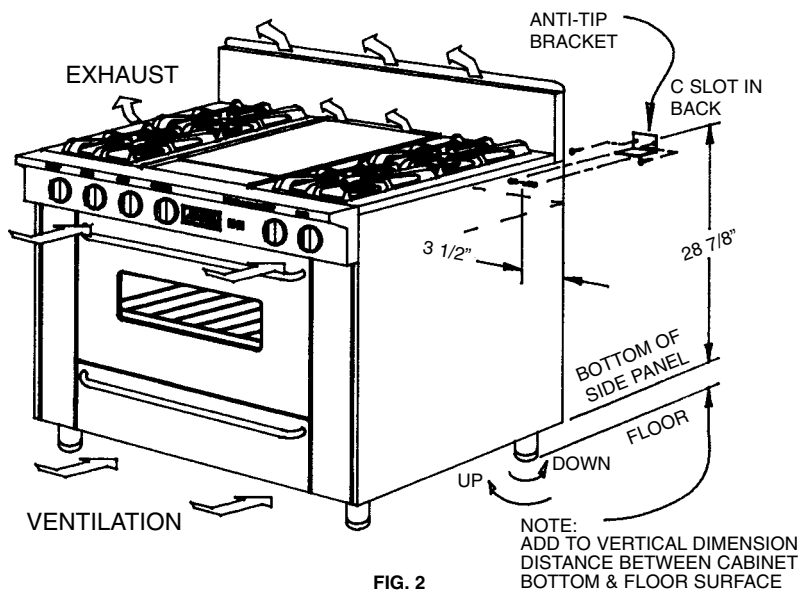

FIG. 2
- 3) REMOVE RANGE AND INSTALL ANTI-TIP BRACKET TO WALL, SEE NOTE, FIG. 2.
**NEVER BLOCK THE FLOW OF AIR FOR COMBUSTION OR VENTILATION. SEE INSTRUCTION FIG. 2.**
Ranges and built-in cooktops must be level to obtain proper cooking results. Ranges adjust from 35 7/8” to 37 7/8” or 2” max. All units must be level front-to-back and side-to-side. See Fig. 2.